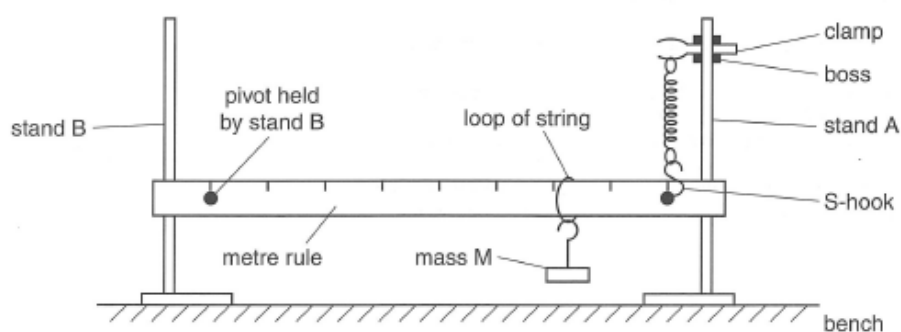

Fig. 1.2
- (b) You are to set up the apparatus as shown in Fig. 1.2.
Using the same apparatus as in Fig. 1.2, plan an experiment to investigate this relationship.